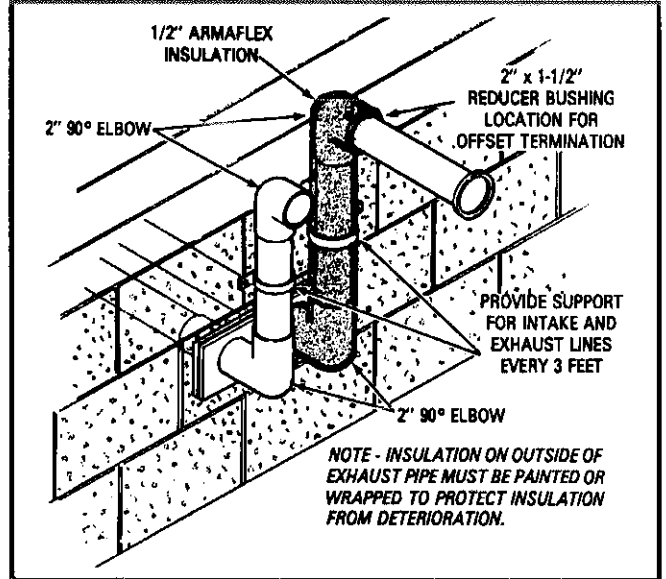
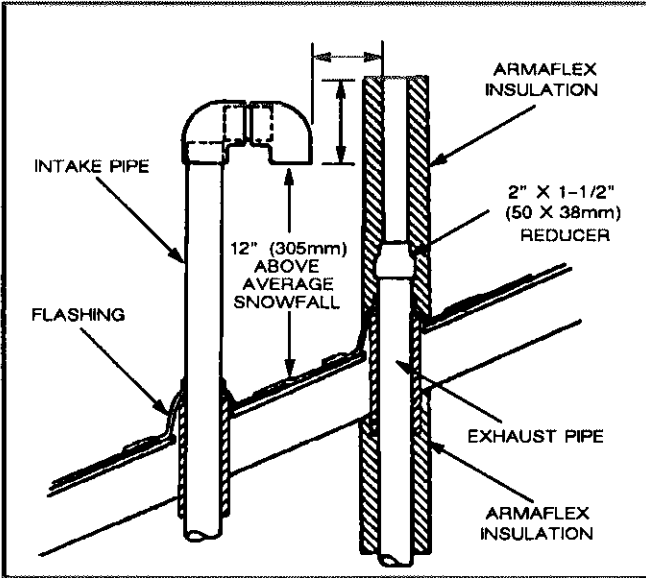

FIGURE 29
FIGURE 28
- 3- Exhaust piping must terminate straight out or up as shown. On roof terminations, the intake piping should terminate straight down using two 90° elbows. See figure 29. In rooftop applications, a 2" X 1-1/2" reducer must be used on the exhaust piping at the point where it exits the structure to improve the velocity of exhaust away from the intake piping. If intake and exhaust piping must be run up a side wall to position above snow accumulation or other obstructions, refer to figures 28 and 30 for proper piping method. Piping must be supported every 3 ft. as shown. When exhaust and intake piping must be run up an outside wall, the exhaust piping is reduced to 1-1/2" after the final elbow.